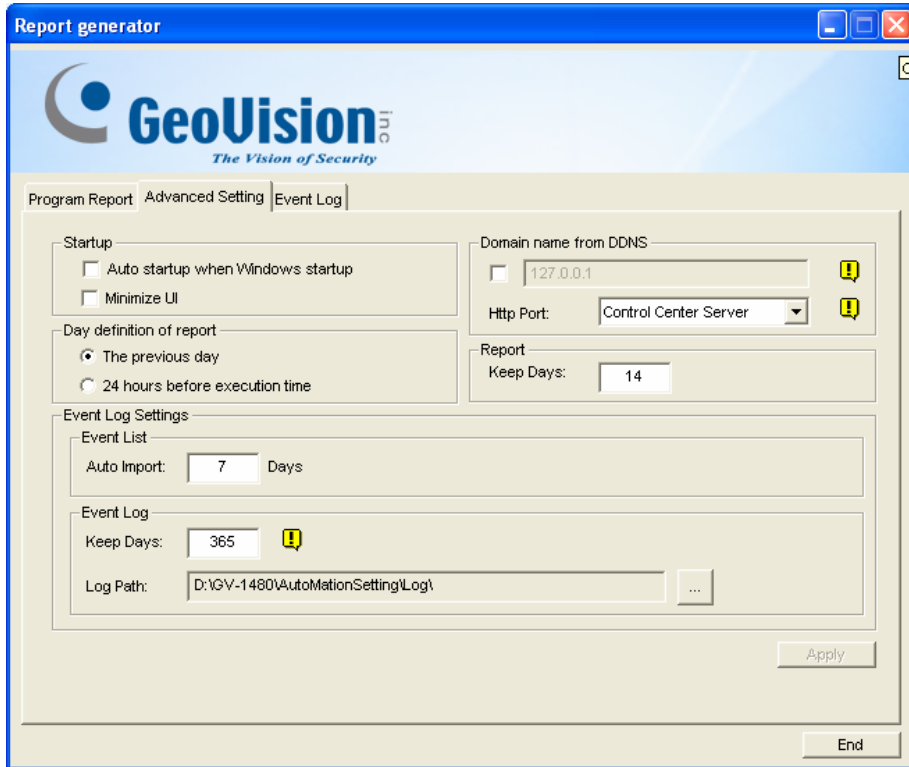

Figure 11-63
- ⊙ If you select **The Previous day** on the Advanced Setting tab (Figure 11-63), the report will be generated on the data of one day before your specified date. For example, you enter “12/10/2007” in the **Select Date** drop-down list. The report is generated on the data of 9th December 2007.
- ⊙ If you select **24 hours before execution time** on the Advanced Setting tab (Figure 11-63), the report will be generated on the data of 24 hours before your specified date and time. Specify the date and time by using the **Select Date** and **Select Time** drop-down lists.
- ⊙ If you select **The Previous day** on the Advanced Setting tab (Figure 11-63), the generated report will contain the data of 7 days before your specified date. For example, you enter “12/10/2007” in the **Select Date** drop-down list. The report is generated on the date from December 3rd to 9th in 2007.
- ⊙ If you select **24 hours before execution time** on the Advanced Setting tab (Figure 11-63), the generated report will contain the data of 7 days counting back on your specified date and time. Specify the date and time by using the **Select Date** and **Select Time** drop-down lists. For example, if you enter “12/10/2007” and “01:00”, the report is generated on the time from 01:00 am, December 10th to 01:00 am, December 4th, 2007.
2. If the **Domain name from DDNS** option on the Advanced Setting tab (Figure 11-63) is not selected, this dialog box will appear.